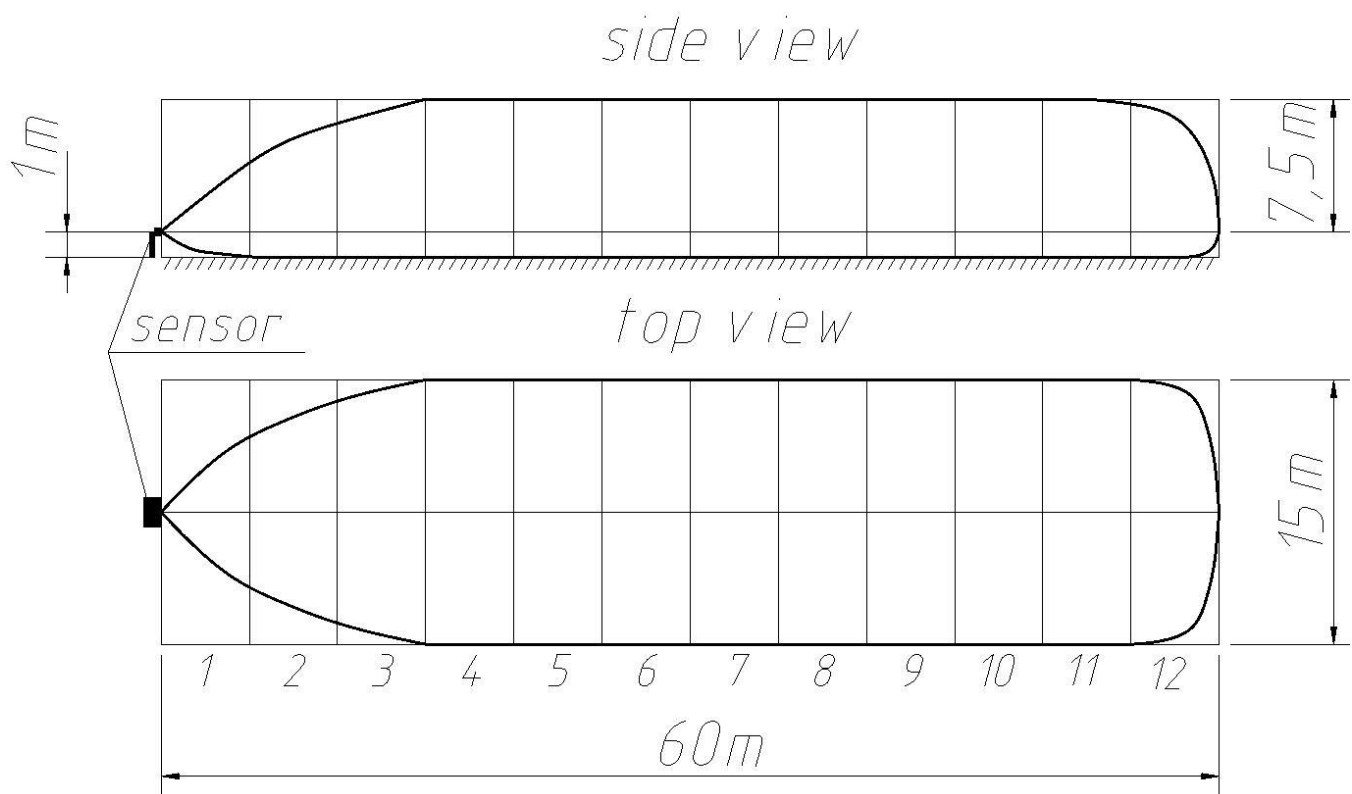

Fig. 8.1 Detection zone parameters of the sensor FM-60 (VOLUME)
- 8.3.5.** Fix the sensor at a horizontal position (relative to the ground) with the bolt 9. The model of the detection zone form (VOLUME, CURTAIN, and FAN) and its dimensions are shown in fig. 8.1, 8.2, and 8.3. There is a subzone's number (1-12) below.